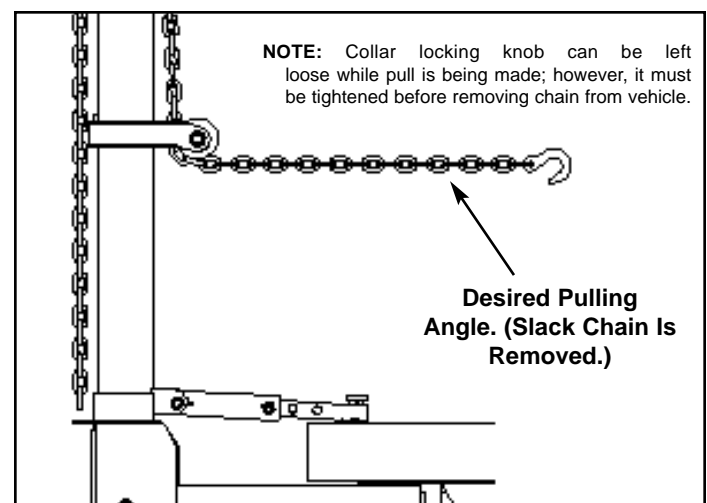

Figure 20
8. Let tower chain hang free momentarily to remove twist. Then, without twisting chain, attach hook to vehicle. Pull on end of chain to remove slack and then lower collar. (See Figure 20.)